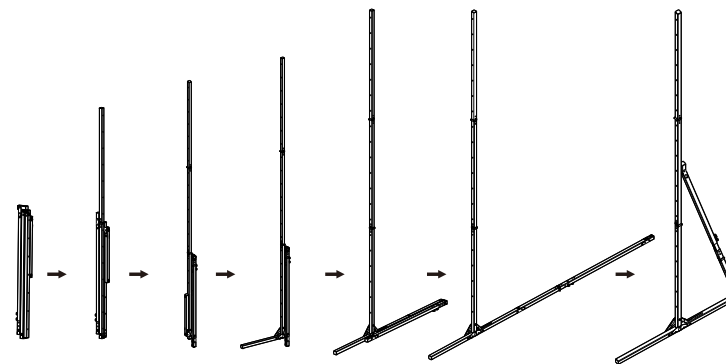

Figure 15
1. Unpack left and right frame legs and extend. Put all joints in place and fully outspread the corner link rod (Figure 15).